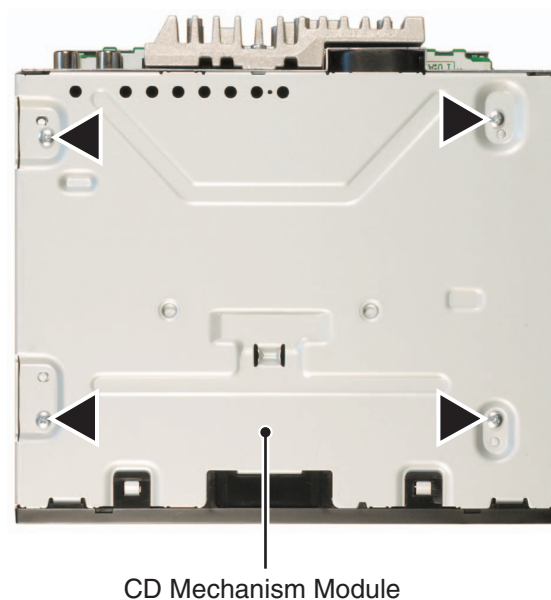

Fig.4
●Attention of removing (Fig.4)
5. Lift the PU unit to disengage it from Part B of the chassis (Fig 4), and remove the PU unit.
(Cautions) When re-installing the PU, be sure to first nip the chassis and the PU unit (Fig 4) at the position B.